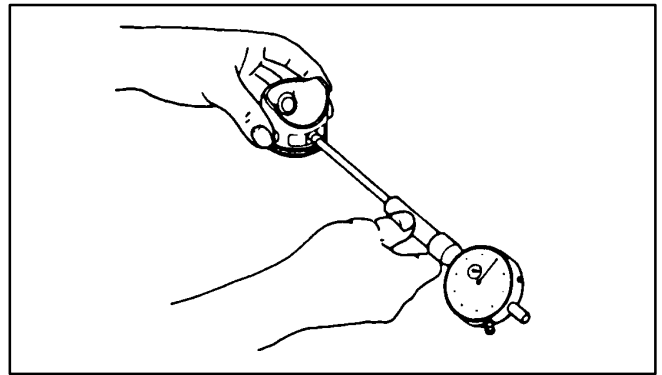

FIGURE 9-26. PISTON BOSS I.D.
1. Measure the piston boss ID in both the vertical and horizontal direction (Figure 9-26).